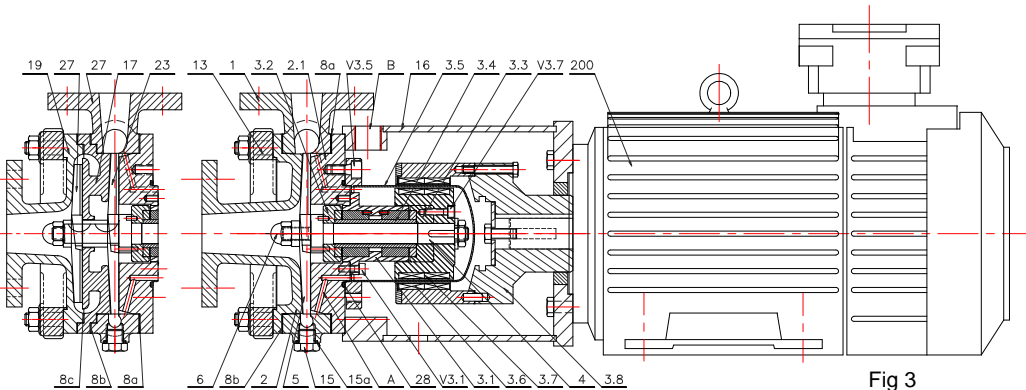

Fig 3
- The 109-212-215-315 pumps can be mounted either in single cell or multicell, according to fig.3